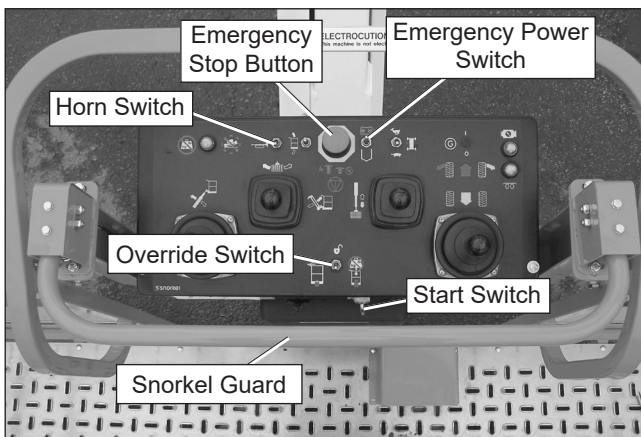

Figure 7.15 – Upper Controls
3. At the upper controls (refer to Figure 7.15), pull the emergency stop button outward.
3. At the upper controls (refer to Figure 7.15), pull the emergency stop button outward. If equipped with the start switch on the front of the panel, place it in the on position.
Hold the horn switch (refer to Figure 7.15) upward to ensure that it sounds to warn personnel in the area.
3. At the upper controls, pull the emergency stop button outward (refer to Figure 7.15).